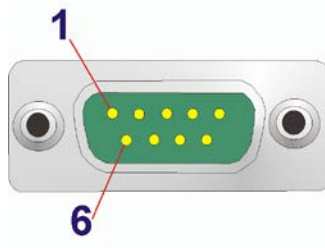

Figure 3-24: RS-422/485 Serial Port Pinout Location
- CN Pinouts:** See **Table 3-9** and **Figure 3-24**